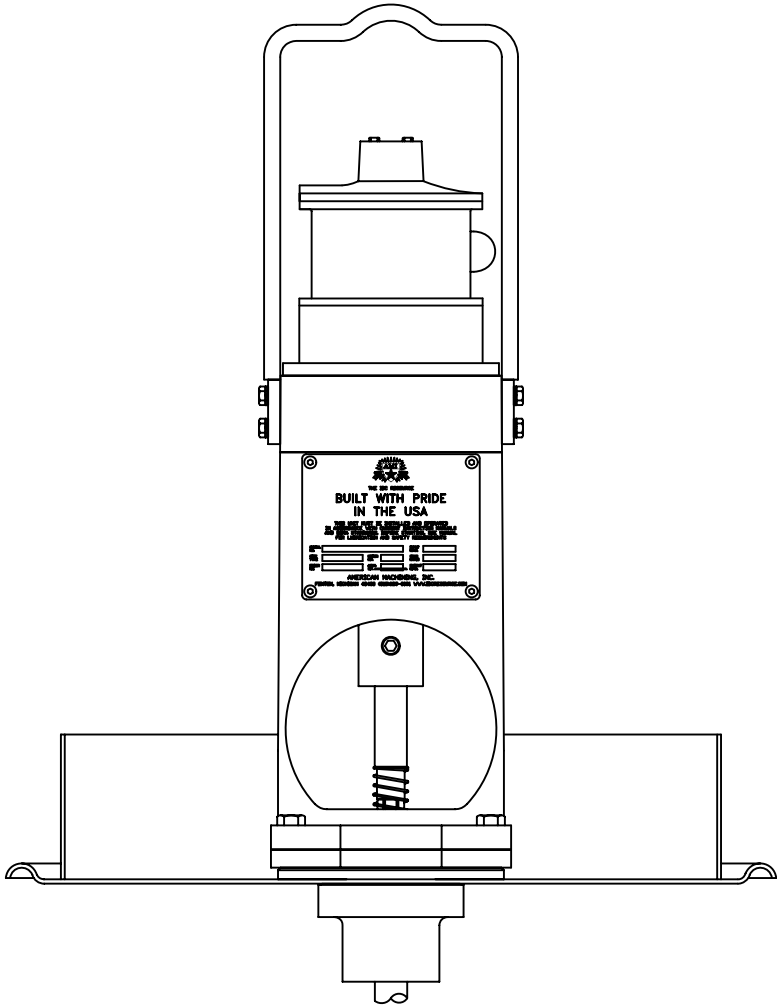

FIGURE 3
- 4) ROTATE SHAFT ADAPTER TILL HEX SOCKET DROPS ONTO AND ENGAGES SHAFT. (SEE FIG. 3)